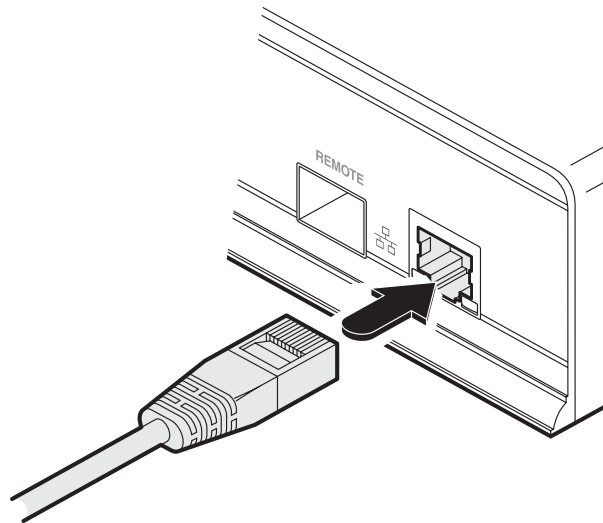

Figure 3-8. CAT 5, 5e, 6, or 7 link either directly from the other ServSwitch Agility unit or from a Gigabit Ethernet switch.
- 1 Connect a CAT 5, 5e, 6, or 7 cable to the socket on the front panel of the ServSwitch Agility unit. See Figure 3-8.